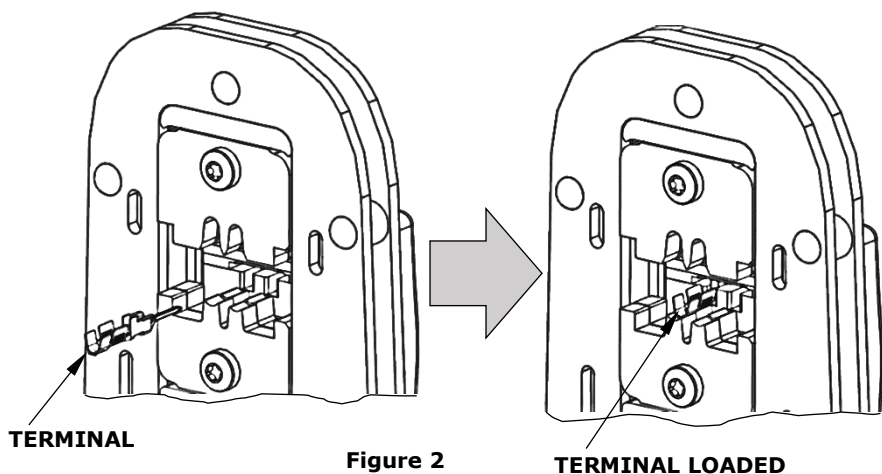

Figure 2
2. Load the terminal into the proper nest opening in the locator based on the wire gauge markings on the hand tool. See Figure 2.